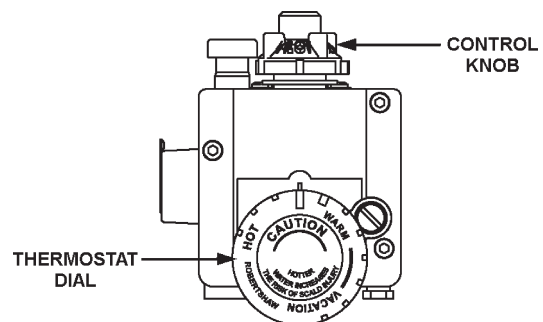

FIGURE 20.
- Rotate the thermostat dial on the water heater control clockwise (↻) until the main burner ignites and burns off all residual gas in the control and supply lines, see Figure 20.
- Rotate the thermostat dial counterclockwise (↺) back to the "PILOT LIGHTING" position, see Figure 20.